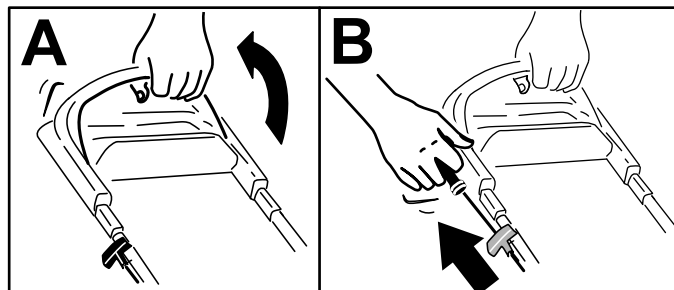

Figure 15
1. Hold the blade-control bar against the handle (Figure 15).
2. Pull the recoil-start handle (Figure 15).
Note: When you pull the recoil-start handle, pull it lightly until you feel resistance, then pull it sharply (Figure 15). Allow the rope to return to the handle slowly.